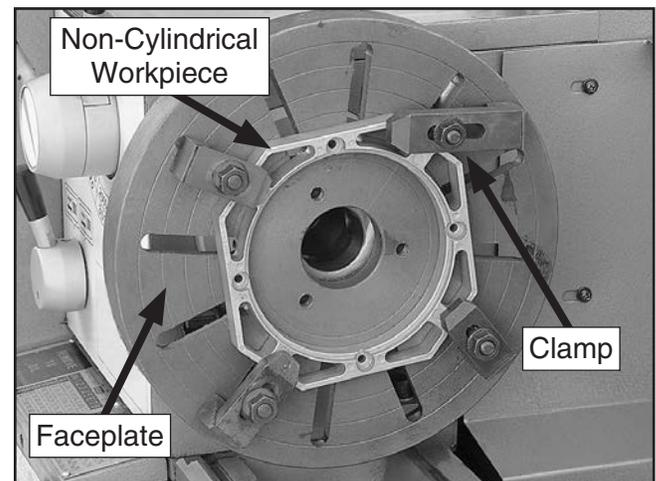

Figure 35. Generic picture of workpiece clamped in a faceplate.
3. With help from another person or a holding device to support the workpiece, position it onto the faceplate and clamp it in place with a minimum of three independent clamping devices (see **Figure 35** for an example).